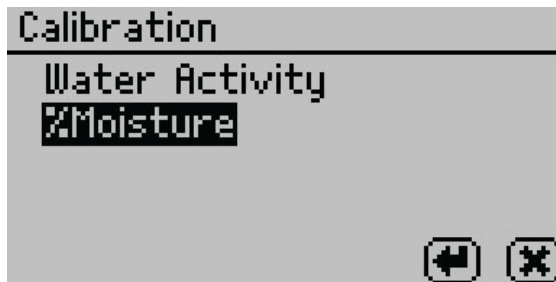

Figure 27 Calibration screen listing calibration types
3. Select **%Moisture** from the list of calibration types (Figure 27).